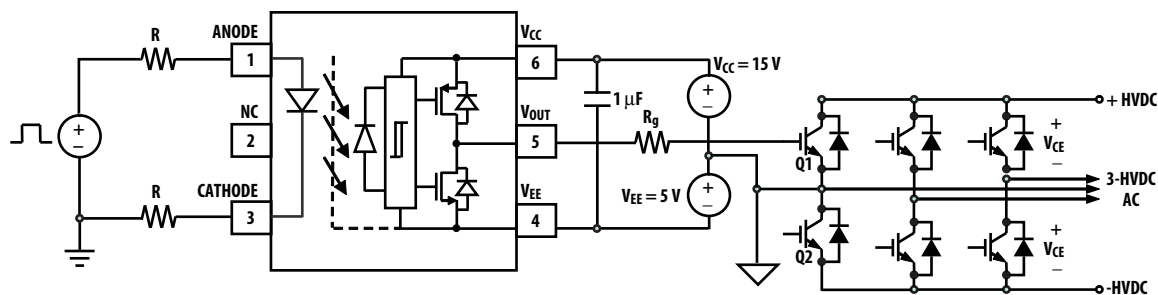

Figure 22. Recommended application circuit with split resistors LED drive
The recommended application circuit shown in Figure 22 illustrates a typical gate drive implementation using the ACPL-P340. The following describes about driving IGBT. However, it is also applicable to MOSFET. Designers will need to adjust the  $V_{CC}$  supply voltage, depending on the MOSFET or IGBT gate threshold requirements (Recommended  $V_{CC} = 15\text{ V}$  for IGBT and  $12\text{ V}$  for MOSFET).
**Step 1:** Calculate Rg minimum from the IOL peak specification. The IGBT and Rg in Figure 22 can be analyzed as a simple RC circuit with a voltage supplied by ACPL-P340/W340.
The ACPL-P340/W340 includes a Propagation Delay Difference (PDD) specification intended to help designers minimize “dead time” in their power inverter designs. Dead time is the time period during which both the high and low side power transistors (Q1 and Q2 in Figure 22) are off. Any overlap in Q1 and Q2 conduction will result in large currents flowing through the power devices between the high and low voltage motor rails.